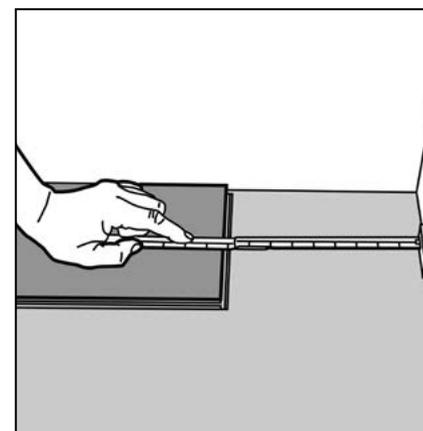

Figure 3 Last plank, first row
- ▶ Measure the length of this plank/tile to fit (Fig 3), cut to correct length and turn back so the overhanging male profile on the short edge is now
- ▶ Start this new row with the leftover piece from the last row (min length 350mm – Fig 3). Insert the plank/tile at an angle against the plank/tile in the previous row (Fig 4). Press forward and fold down at the same time.